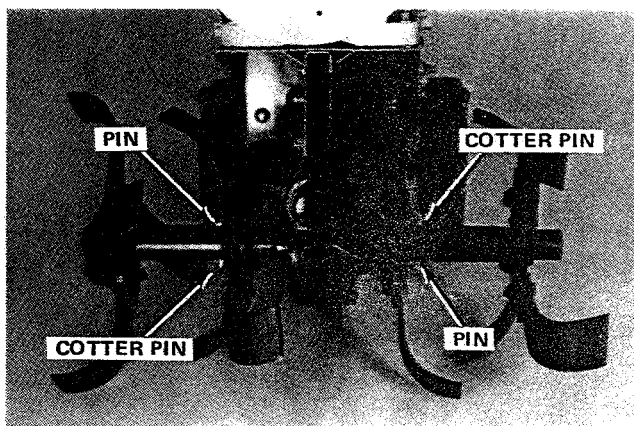

Figure 22. Installing Tines
3. Install tines on rotor shaft so cutting edges are the forward leading edge as rotor turns. Secure tines on shaft with pins (the two shorter pins) and cotter pins (see figure 22). Spread cotter pin legs.